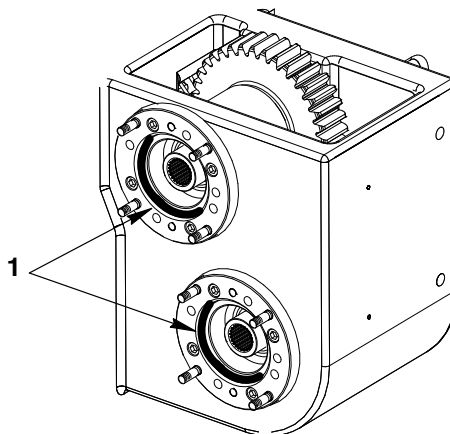

Fig. 8
- 1) Put a new O-ring (1, Fig. 8) in the pump support.
- 2) Apply a small quantity of oil to the the O-ring (1).